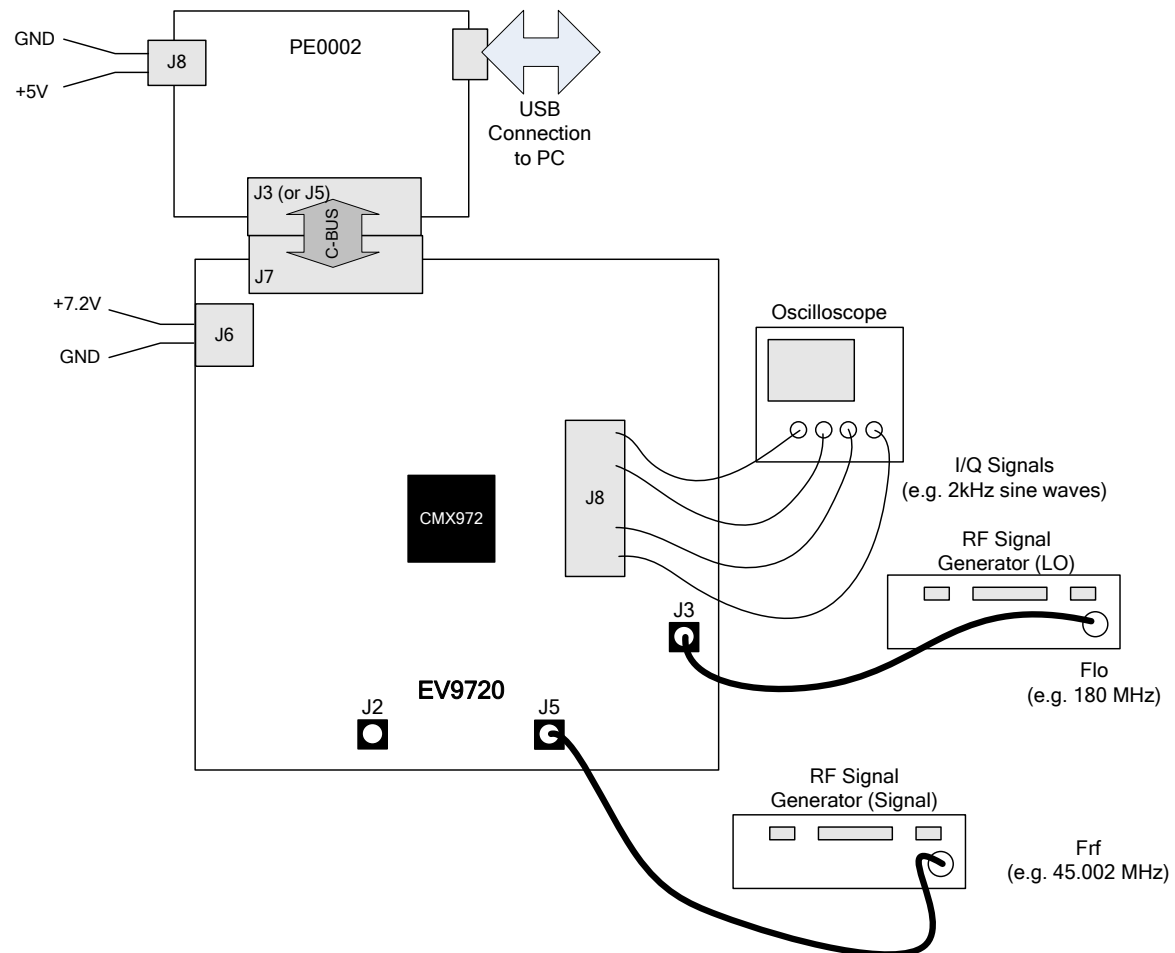

Figure 3 Typical Connections for EV9720 as a Quadrature IF Demodulator
An example of typical connections to the EV9720 is shown in Figure 3. Perform the following steps in sequence:
1. Connect test leads as shown in Figure 3, except the power to J6.